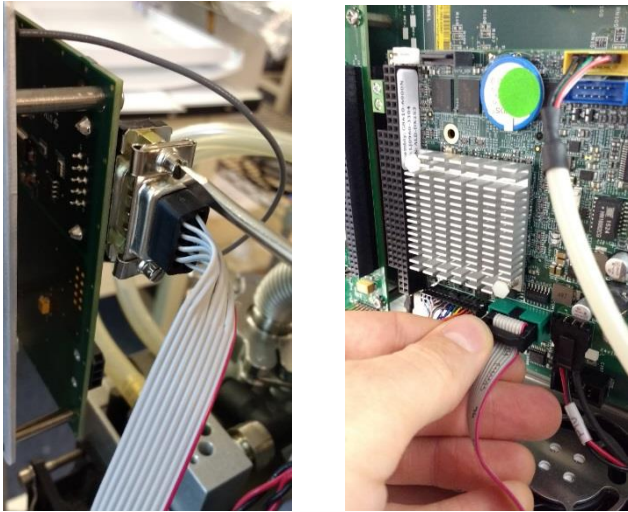

Figure 6: RS232 Connection
- 9) Connect the RS-232 on the wireless board using its two slotted screws (Figure 6: RS232 Connection, left side). Plug in the other side of the ribbon cable to the green port on the CPU board, located on the front side of the leak detector, away from the antenna's printed circuit board (Figure 6: RS232 Connection, right side).